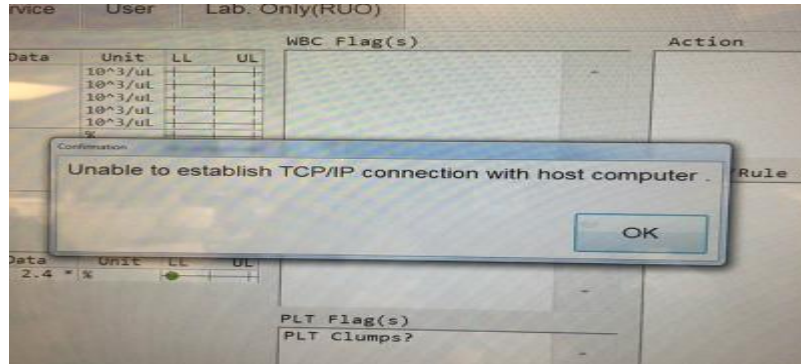

Figure 9: TCP/IP Connection Error Screen
1. You will see the following message (see Fig. 9) pop up on the XN IPU. Click **[OK]**. This will initiate the backup server to connect. Initialization will happen in the background.